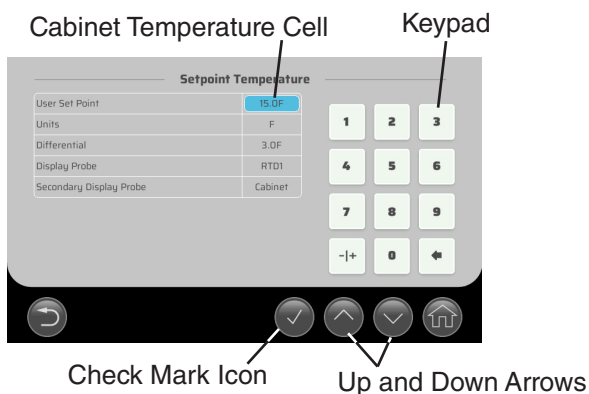

Fig. 5
- Press the User Set Point temperature cell. See Fig. 5.